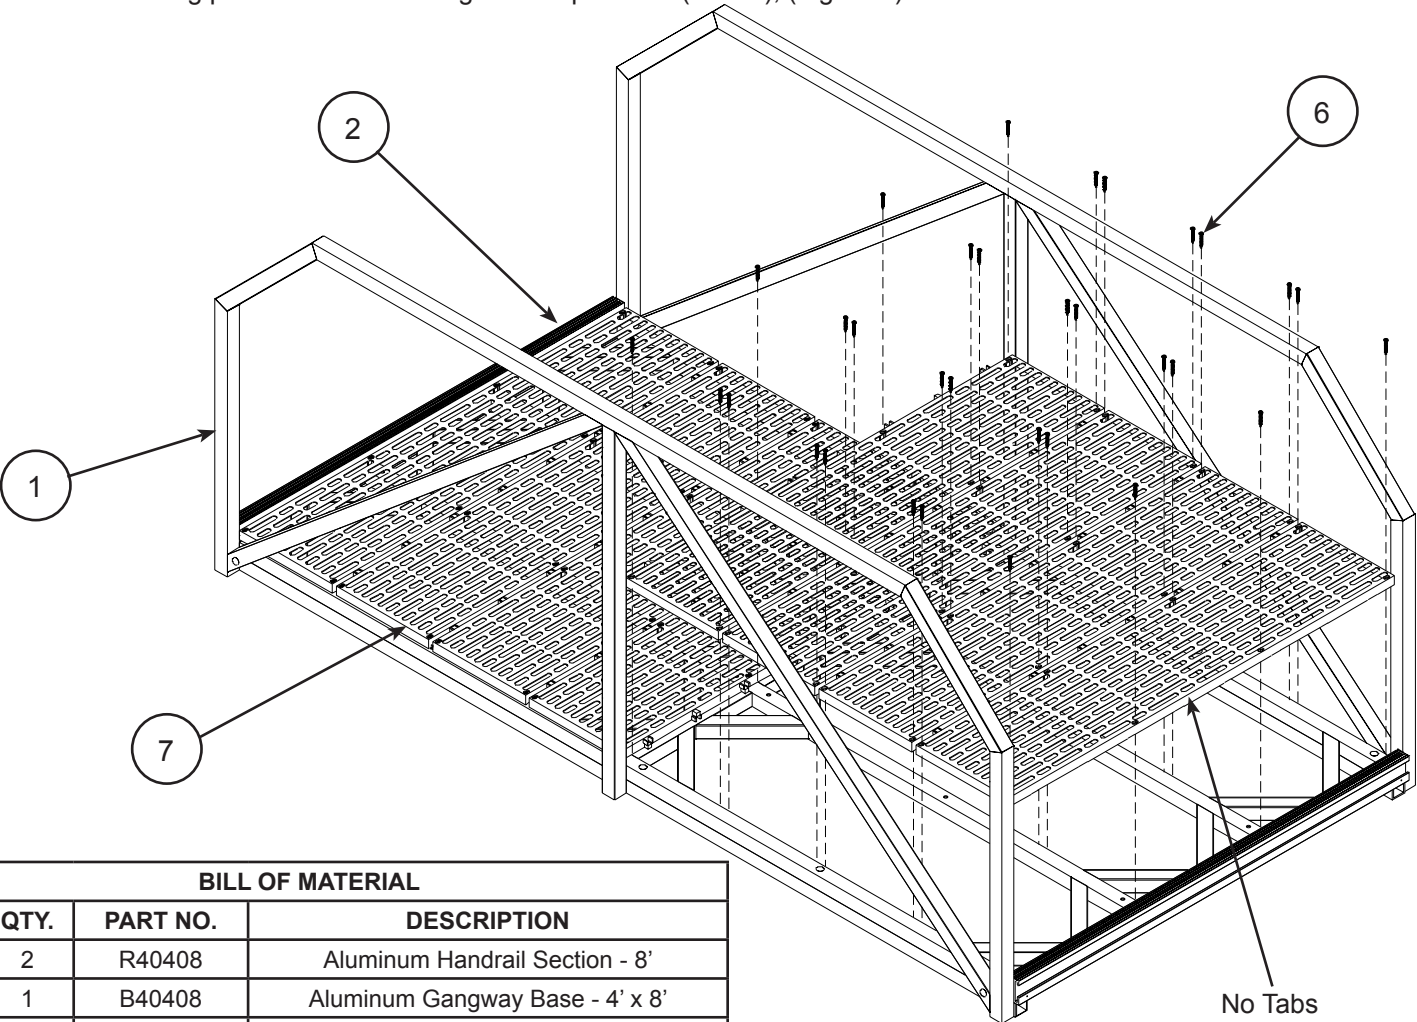

Figure 3.
- **Step 3:** Next, lay out all decking panels on the gangway. Make sure that the two pieces that were cut on Step 2 are placed on each end with the side without interlocking tabs facing out. The decking panels should be centered on the aluminum gangway base, approximately 1/4" from the outside edge (length) of the base. Once located correctly, fasten the ThruFlow™ Decking panel with the decking screws provided (Item 6), (Figure 3).